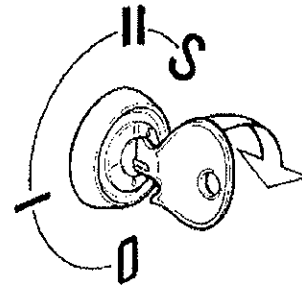

Fig. 42. Key switch on instrument panel, MD70, TMD70
3. **MD70, TMD70:** Turn the key switch to the running position-II, fig. 42. Check that the warning lamps for battery charging and oil pressure (14 and 15, fig. 21) are alight. The alarm buzzer is switched on at the same time. Dampen the noise by holding your thumb over the buzzer (18).